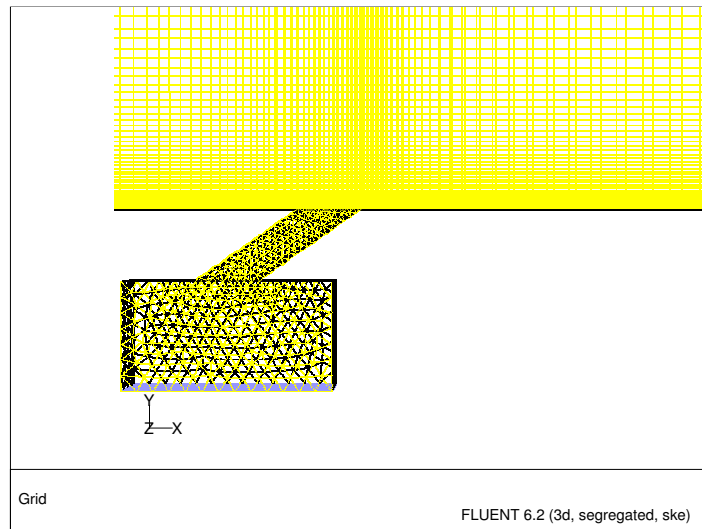

Figure 6.4: Hybrid Mesh (Zoomed-In View)
- (c) Zoom in using your middle mouse button to get the view displayed in Figure 6.4.
In Figure 6.4 you can see the quadrilateral faces of the hexahedral cells that are used to model the duct region, and the triangular faces of the tetrahedral cells that are used to model the plenum and hole regions, resulting in a hybrid mesh.